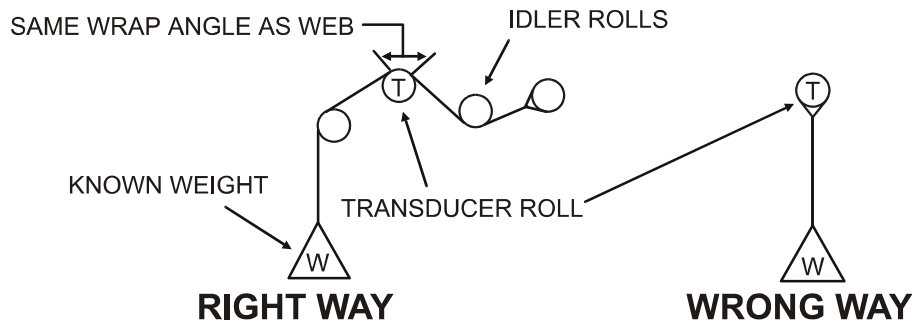

Figure 13 - WEB PATH
2. **CALIBRATION:** Fasten one end of the rope in the machine and thread the other end around the transducer roll in exactly the same path the web will take. Be sure the rope does not pass around any driven rolls, drag bars, or anything else that can affect tension. Ideally the rope should hit an idler roll immediately before and after the tension sensing roll. It does not have to pass over any other rollers once these three are strung. Refer to Figure 13.
1. Attach the weight to the free end of the rope as shown in Figure 13. The weight should not touch anything. Wait for the weight to stop swinging.